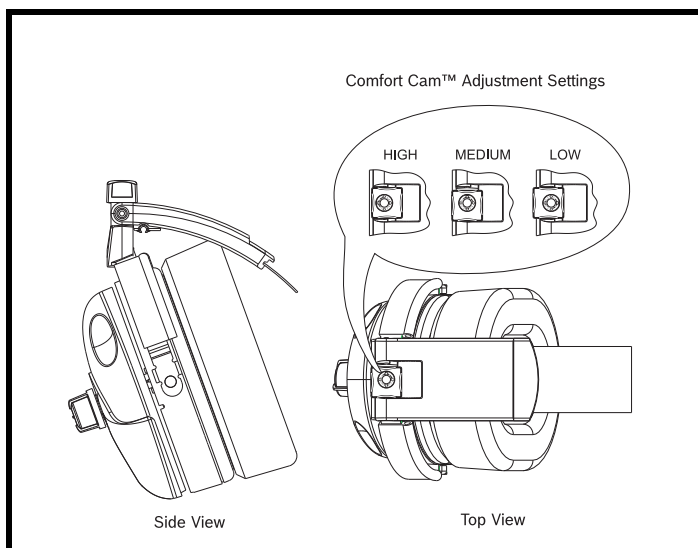

FIGURE 8. Headband Pressure Adjustment
There are three (3) pressure settings. Increasing the pressure will improve the seal between the earcup and the head for greater noise reduction. To change the pressure setting, remove the headset and fold the earcup inward as shown in Figure 8, then rotate the Comfort Cam™ to the desired setting. Repeat for both ear cups. Both sides of the headband should be set to the same pressure setting to keep the headband properly centered on the head.